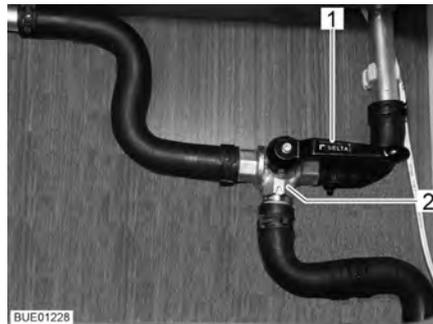

Fig. 133 3-way valve
- Set the lever (Fig. 133,1) of the 3-way valve (Fig. 133,2) parallel to the straight flow direction (Fig. 133).
- Set the lever (Fig. 133,1) of the 3-way valve (Fig. 133,2) transverse to the straight flow direction.